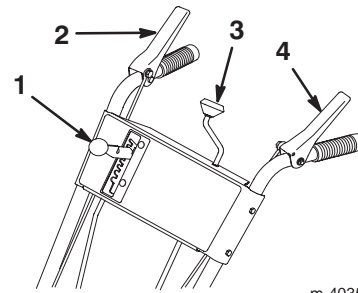

Figure 7
- Move the speed selector (Fig. 7) on the control panel to the R_2 (Reverse) position.